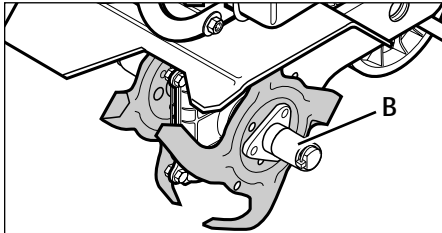

Figure 17: Narrow tilling tine configuration.
4. Slide one of the long bushings (B, Figure 17), provided with the unit, onto the shaft. Insert the ring lock pin through the rounded side of the tine shaft and snap the ring down over the shaft (see *DETAIL - Ring Lock Pin*, Figure 4, in Section 2).